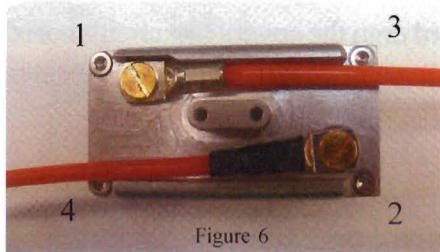

Figure 6
8. Turn the transmitter so that the antennas are on top (Figure 6).
9. Using the four small torx, flat head screws, secure the cover to the transmitter body. Start all screws first, then tighten screws in the order show in (Figure 6).